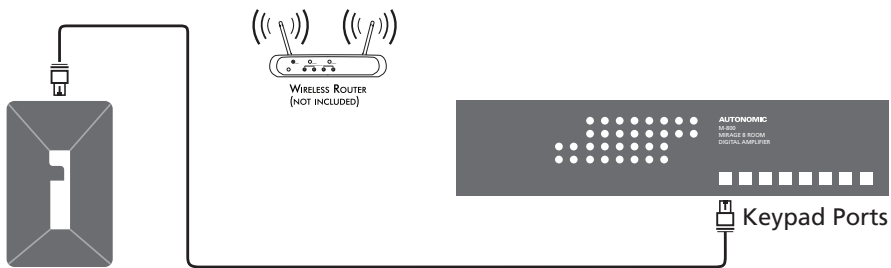

Figure 3: KP-iOS System Connection
1. Before making connections, run a length of Cat5 cable through the wall from the KP-iOS location to the location of the Mirage Amplifier, as shown in Figure 3.
3. Plug the Cat5 cable into the RJ-45 jack on the KP-iOS and the other end into one of the keypad ports on a Mirage M-400 or M-800 amplifier, as shown in Figure 3.